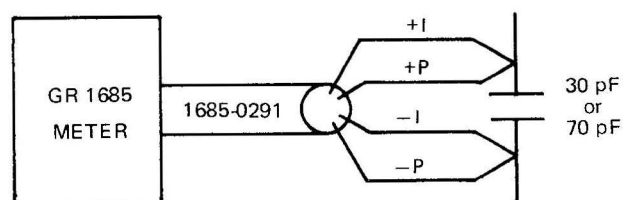

Figure 5-4. AC adjustment test setup, range 4.
b. Connect the 1685 as shown in Figure 5-4.
- Connect the 1685 as shown in Figure 5-4.